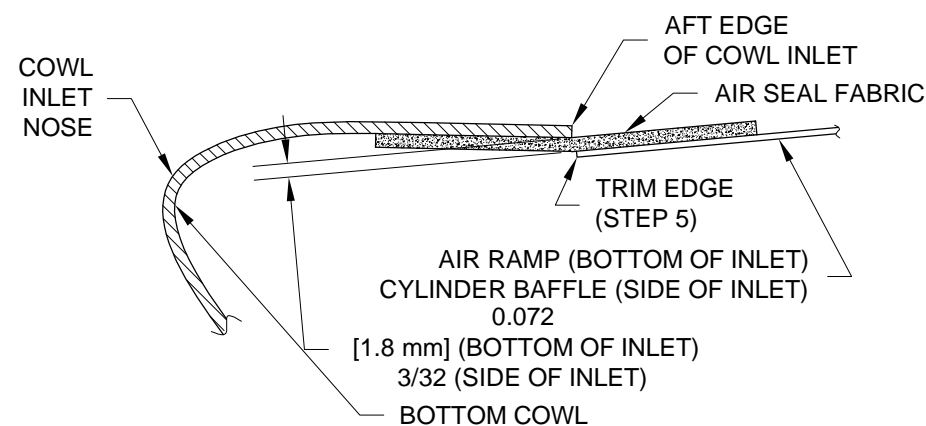

FIGURE 2: SECTION A-A
NOTE: The remaining steps may require iteration until the bottom cowl fits up to the baffles as shown in Figure 2. Proceed slowly. The order of the steps is not as important as the final result. The goal is to match the baffle sides and ramp to the cowl inlet aft edge as shown in Figure 2.
Step 3: Adjust the main ramp angle bend until the CB-1002A and CB-710A Fwd Air Ramps match up to the inbd cowl inlet tangent point as shown in Figure 1 and Figure 2.